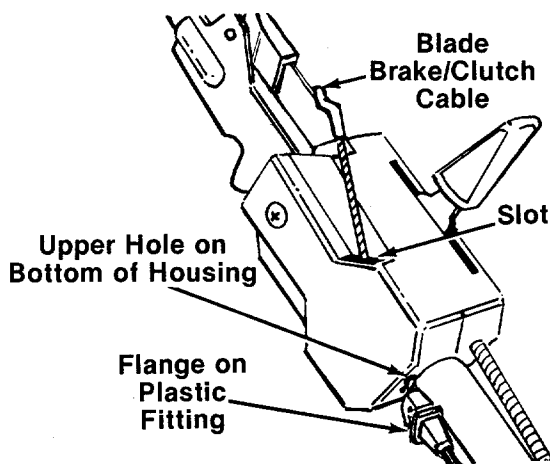

FIGURE 4.
- Route the blade brake/clutch cable under the lower handle. Place end of cable into the upper hole on the bottom of the control housing, and through the slot on the side of the housing as shown. The angle of the flange on the plastic fitting must be positioned downward as shown in figure 4. Be careful not to bend or kink the cable.